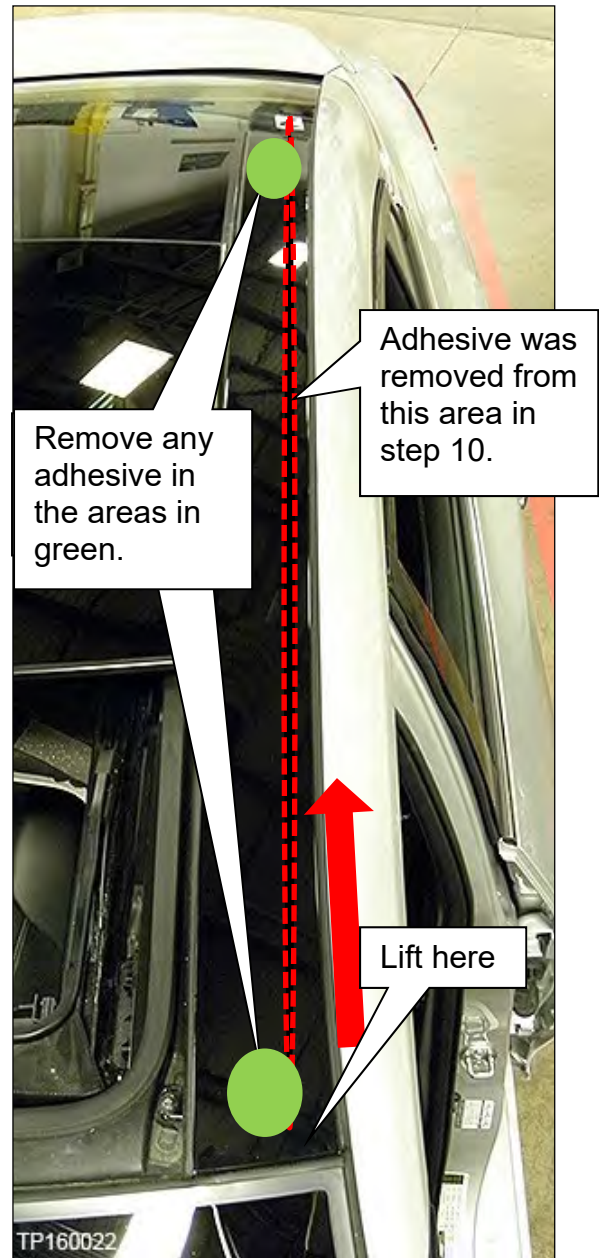

Figure 12
13. If the roof finisher will still not release after the pins have been released, cut away any adhesive under the roof finisher indicated by the green circles as shown in Figure 12.